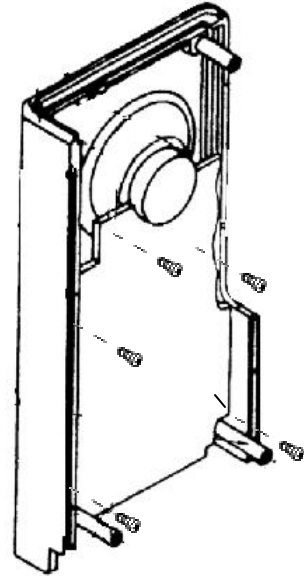

Figure 2
- d) Remove the five screws holding in the Options board and gently disconnect from keyboard. (Fig. 2)